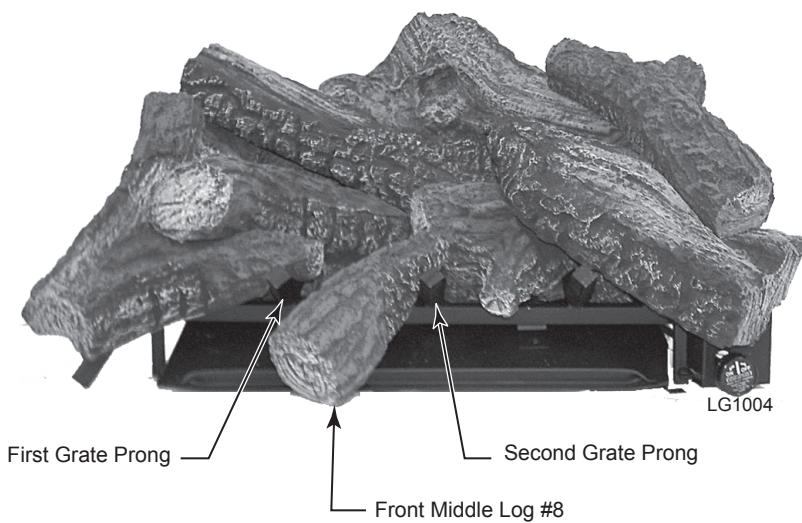

Figure 44
- 8. Place front middle log (#8) between the first and second prongs. *Figure 44*